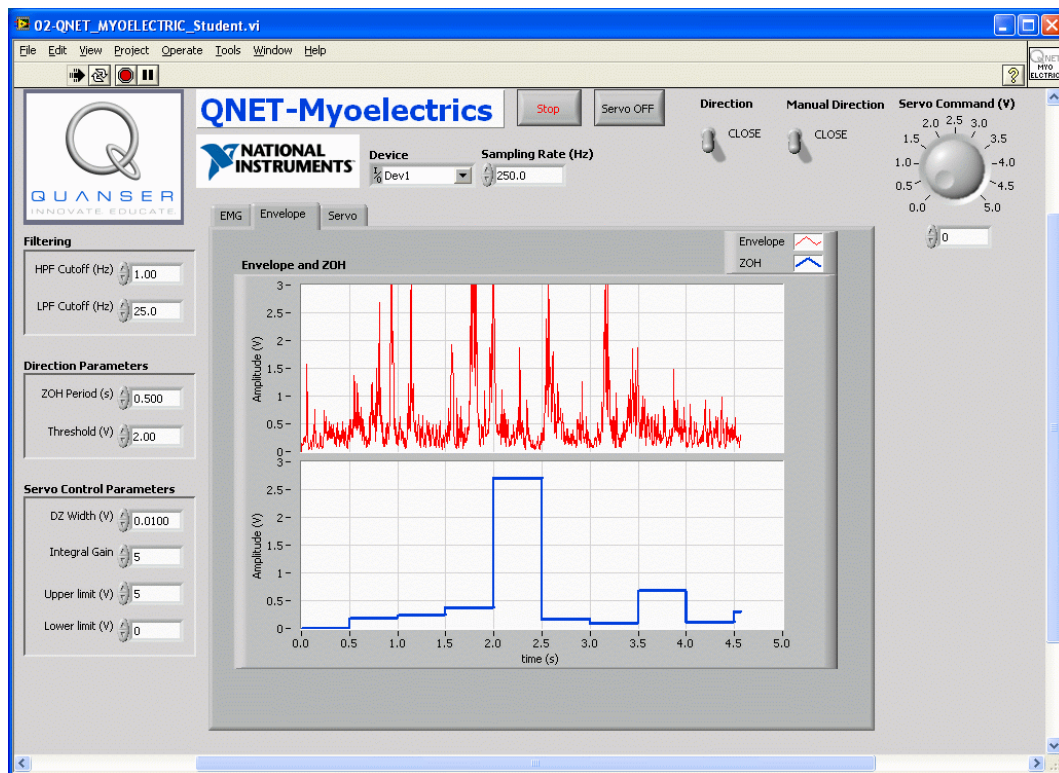
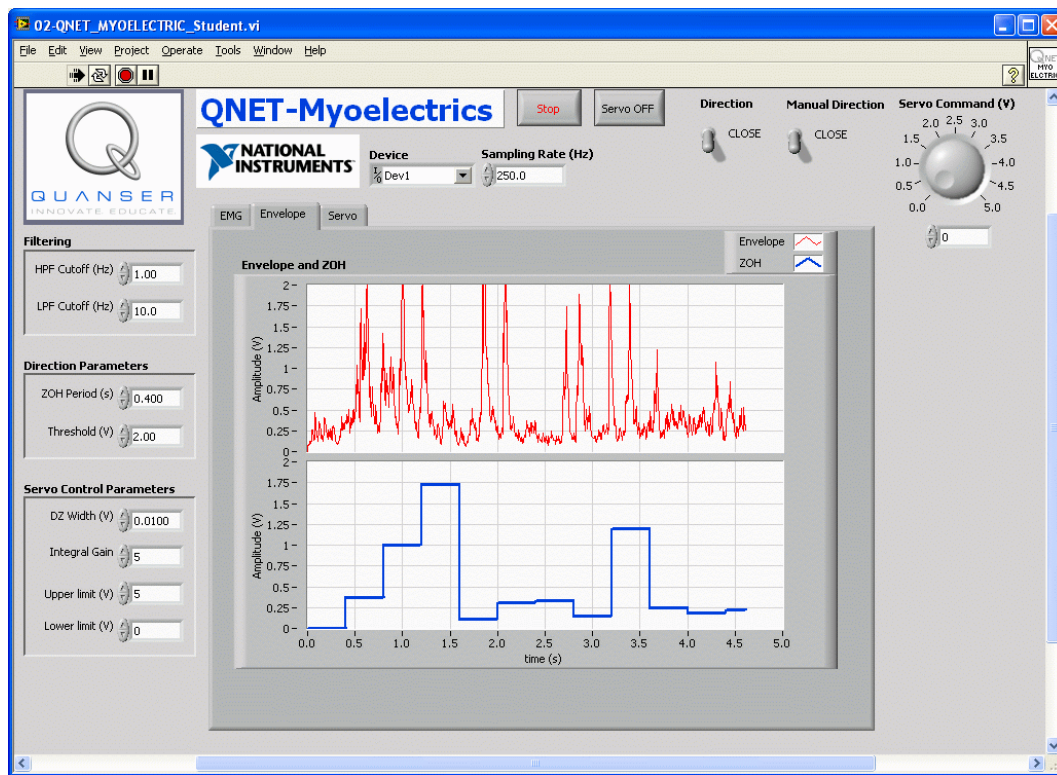
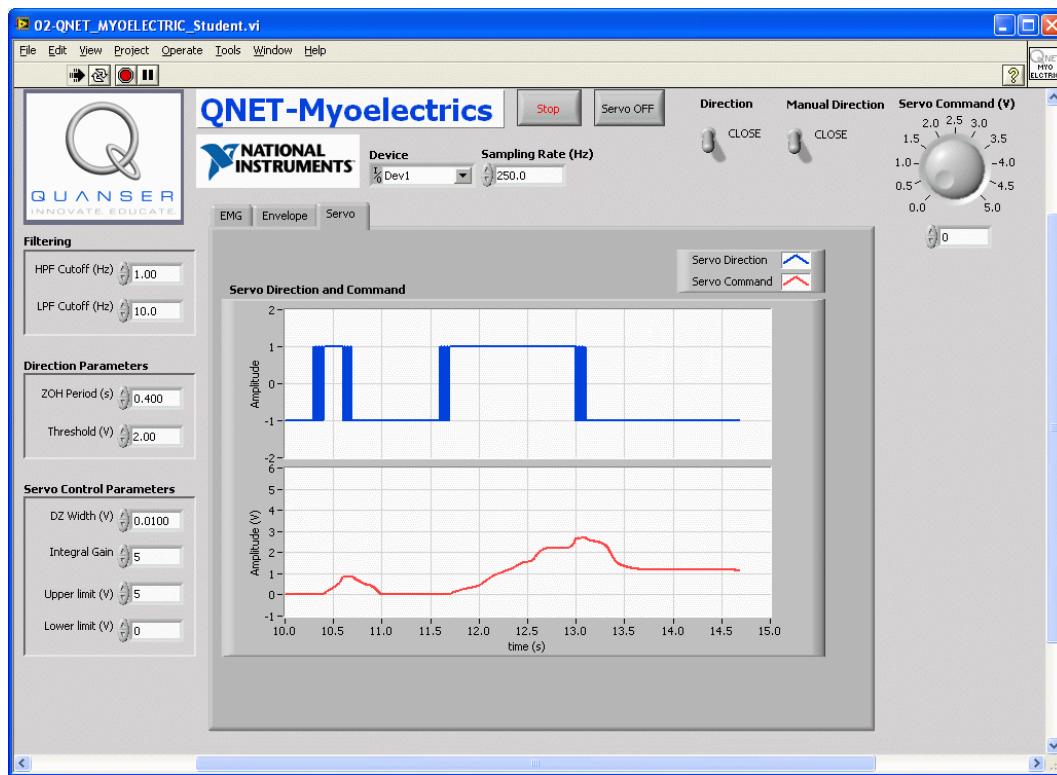

Figure 3.3: QNET Myoelectric VI: Envelope and ZOH tab
Figure 4.3: QNET Myoelectric VI: Configure the ZOH
Figure 4.4: QNET Myoelectric VI: Servo tab
The virtual instrument used to view EMG sensor measurements, and the output of the linear envelope is shown in Figure 4.3 and Figure 3.3.
4. Select the *EMG* tab, as shown in Figure 4.3. The top plot in the *EMG Signal (V)* scope is the measured EMG signal (after on-board signal processing) and the bottom plot is the high-pass filtered and rectified signal.
6. Select the *Envelope* tab, as shown in Figure 3.3, the top plot is the linear envelope of the EMG signal and the bottom plot is the zero-order hold of the envelope.
The virtual instrument used to configure the ZOH, and control the servo position is shown in Figure 4.3 and Figure 4.4.
4. Select the *Envelope* tab. As illustrated Figure 4.3, the bottom plot shows the zero-order hold (ZOH) of the envelope.